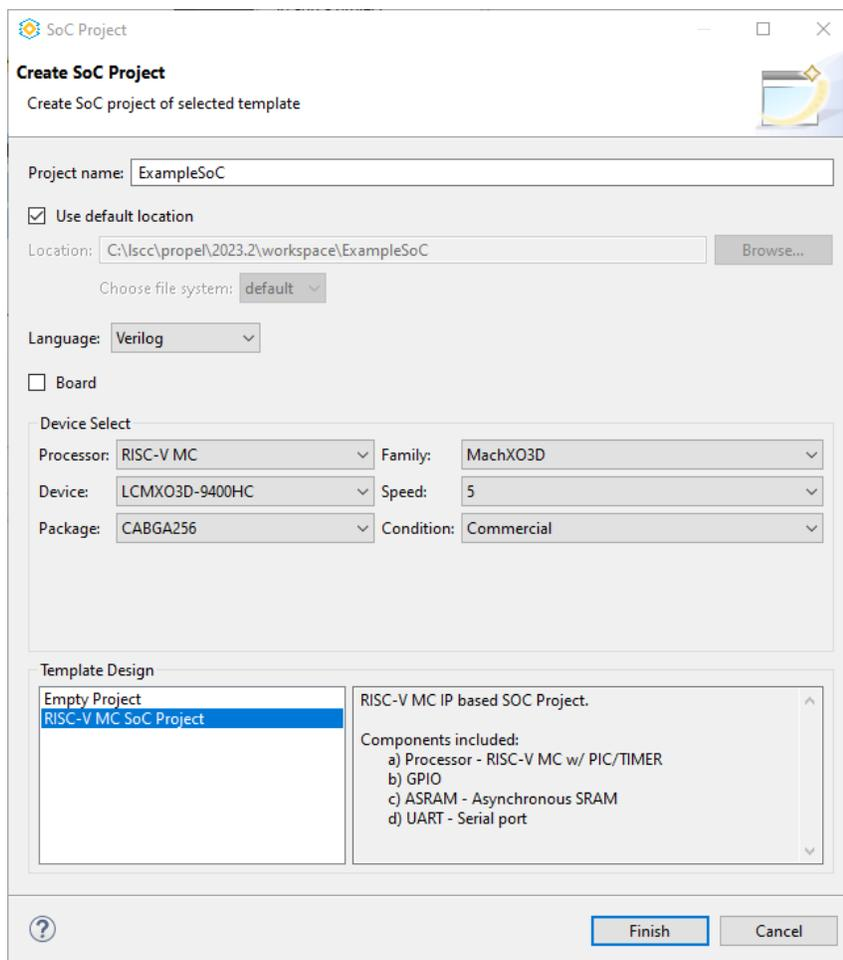

Figure 3.7. Specify a Device for Template SoC Project
The **Create SoC Project** wizard opens (Figure 3.7). In the **Create SoC Project** wizard, you can specify a device or a board for a Template SoC project.
- To specify a device for your new Template SoC project, use the drop-down menu to select desired device information, including **Processor, Family, Device, Package, Speed,** and **Condition.** Also, select RISC-V SoC Project or Empty Project in the **Template Design** field (Figure 3.7).